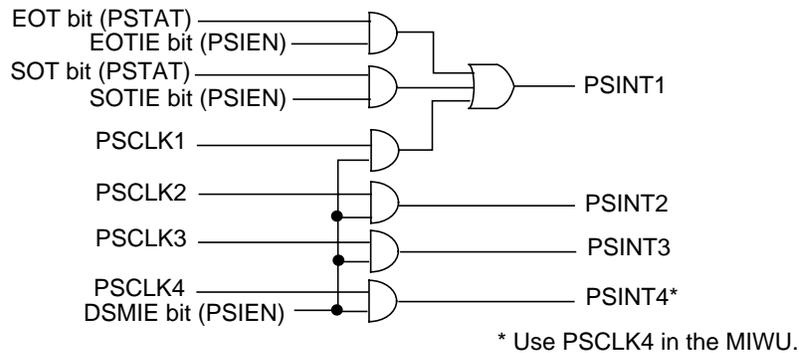

**Figure 39. Quasi-Bidirectional Buffer**
The quasi-bidirectional drivers have an open-drain output (Q2), an internal pull-up (Q3) and a low-impedance pull-up(Q1). Q2 pulls the signal low whenever the output buffer data is “0”. The weak pull-up (Q3) is active whenever the output buffer data is “1” and WPUEN in PSCON register is set (1). The low impedance pull-up is active whenever the PC87591x changes the output data buffer from “0” to “1”, thereby reducing the low-to-high transition time. The length of time that the low-impedance pull-up is active is determined by HDRV field in PSCON register. A schematic description of this output driver appears in Figure 39.